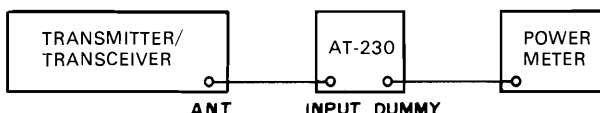

Fig. 1
- Connect as in Fig. 1
As in Fig. 1